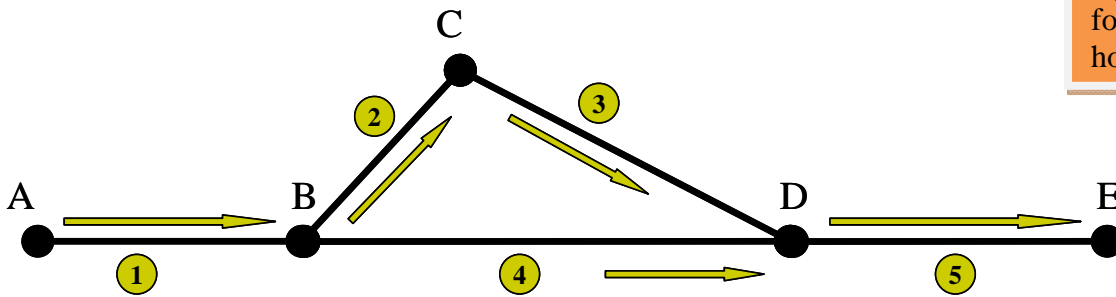

Figure 1. Pipe System for equivalent pipe problem
1. For the pipe system shown below (Figure 1), determine the length of a single equivalent pipe that has a diameter of 8 inches. Use the Hazen Williams equation and assume that  $C_{HW} = 120$  for all pipes. Solve the problem using the following steps:
Table 1. Pipe Data for Figure 1 Pipe System